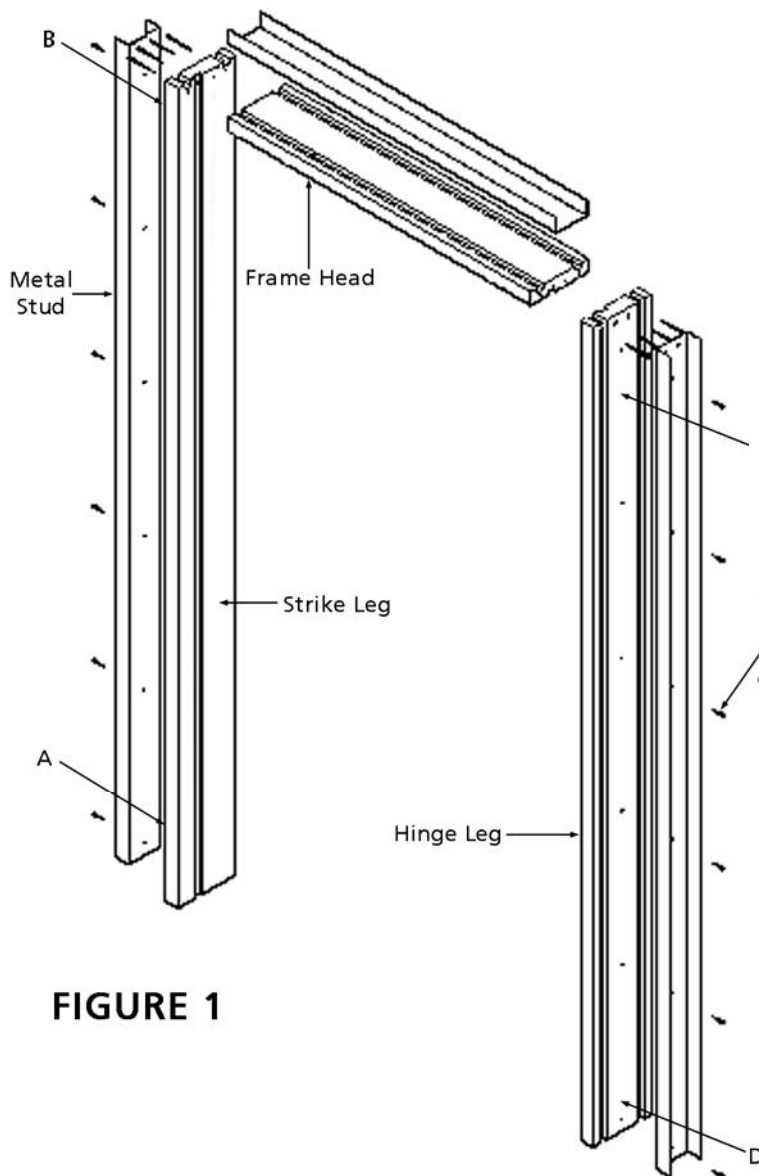

FIGURE 1
5. Screw the metal stud to the back of the hinge leg. The stud should be centered on the back of the leg and secured using 1 ¼" drywall screws 4" from each end, and every 16" on center (fig. 1). This spacing should be used for all legs and heads.